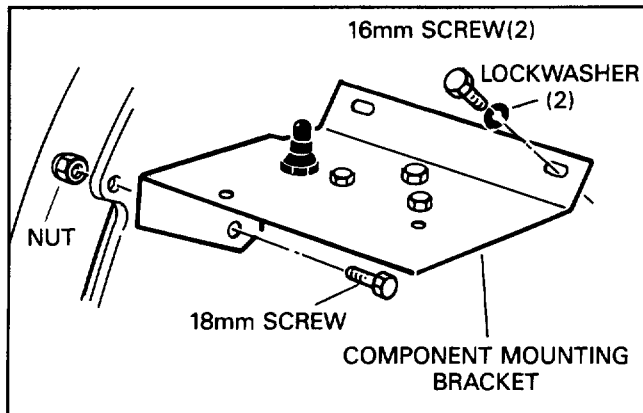

Figure 13
22. Install component mounting bracket to engine with a 16mm screw and lockwasher (Fig. 13).